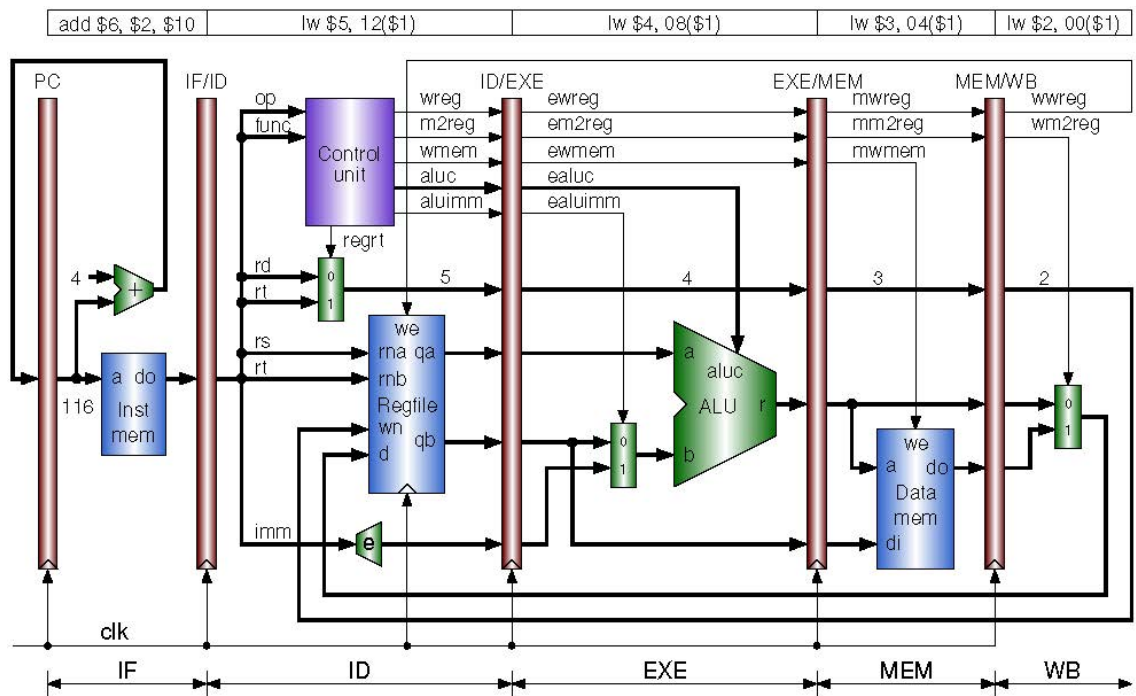
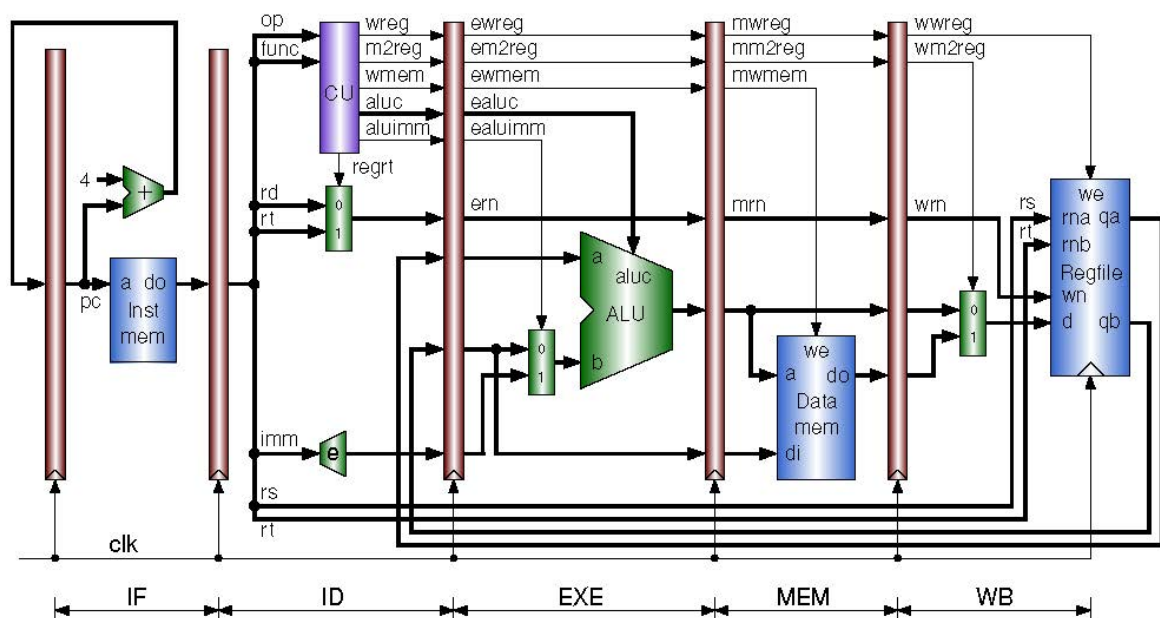
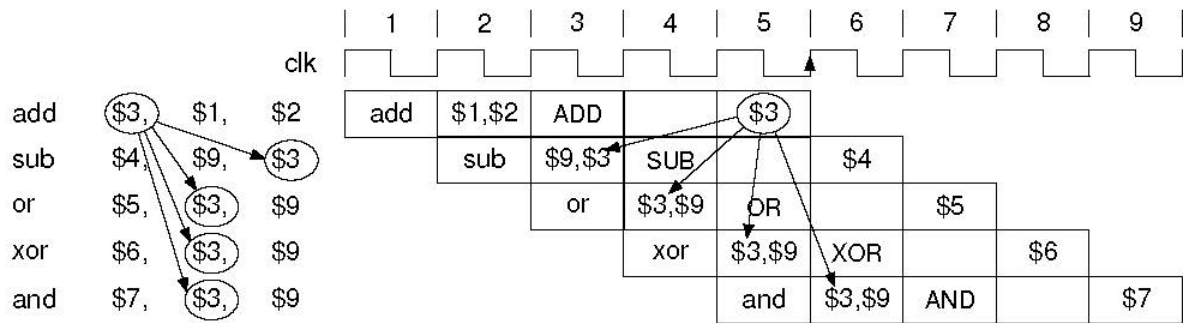

Figure 1 Pipeline write back (WB) stage
Figure 2 Writing result to the register file in the write back stage
Figure 3 Data hazard examples
Referring to Figure 1, in the fifth cycle the first instruction entered the WB stage. The memory data is selected and will be written into the register file at the end of the cycle. All the control signal have a prefix “w”. The second instruction entered the MEM stage; the third instruction entered the EXE stage; the fourth instruction is being decoded in the ID stage; and the fifth instruction is being fetched in the IF stage. All the six pipeline registers are updated at the end of the cycle (the destination register is considered as the six pipeline register). Then the first instruction is committed. In each of the forth coming clock cycles, an instruction will be committed and a new instruction will enter the pipeline. We use the structure shown in Figure 1 as a baseline for the design of our pipelined CPU.
10. Write a Verilog code that implement the following instructions using the design shown in Figure 2. Write a Verilog test bench to verify your code: (You have to show all the signals written into and out from the MEM/WB register and the inputs to the Regfile block in your simulation outputs)
In order to focus our attention on the WB stage easily, the baseline CPU shown in Figure 1 is redrawn by putting the register file on the WB stage where the execution result of an instruction is written as shown in Figure 2. The state of the art content can be read correctly in the ID stage after it is written at the end of its WB stage. Data hazards occur in the code example shown in Figure 3. You need to add the required components to solve the hazard problem and do forwarding if needed.
16. Write a Verilog code that implement the instructions using the design shown in **Figure 3**. Write a Verilog test bench to verify your code: (You have to show qa and qb signals that output from the Regfile block in your simulation outputs)